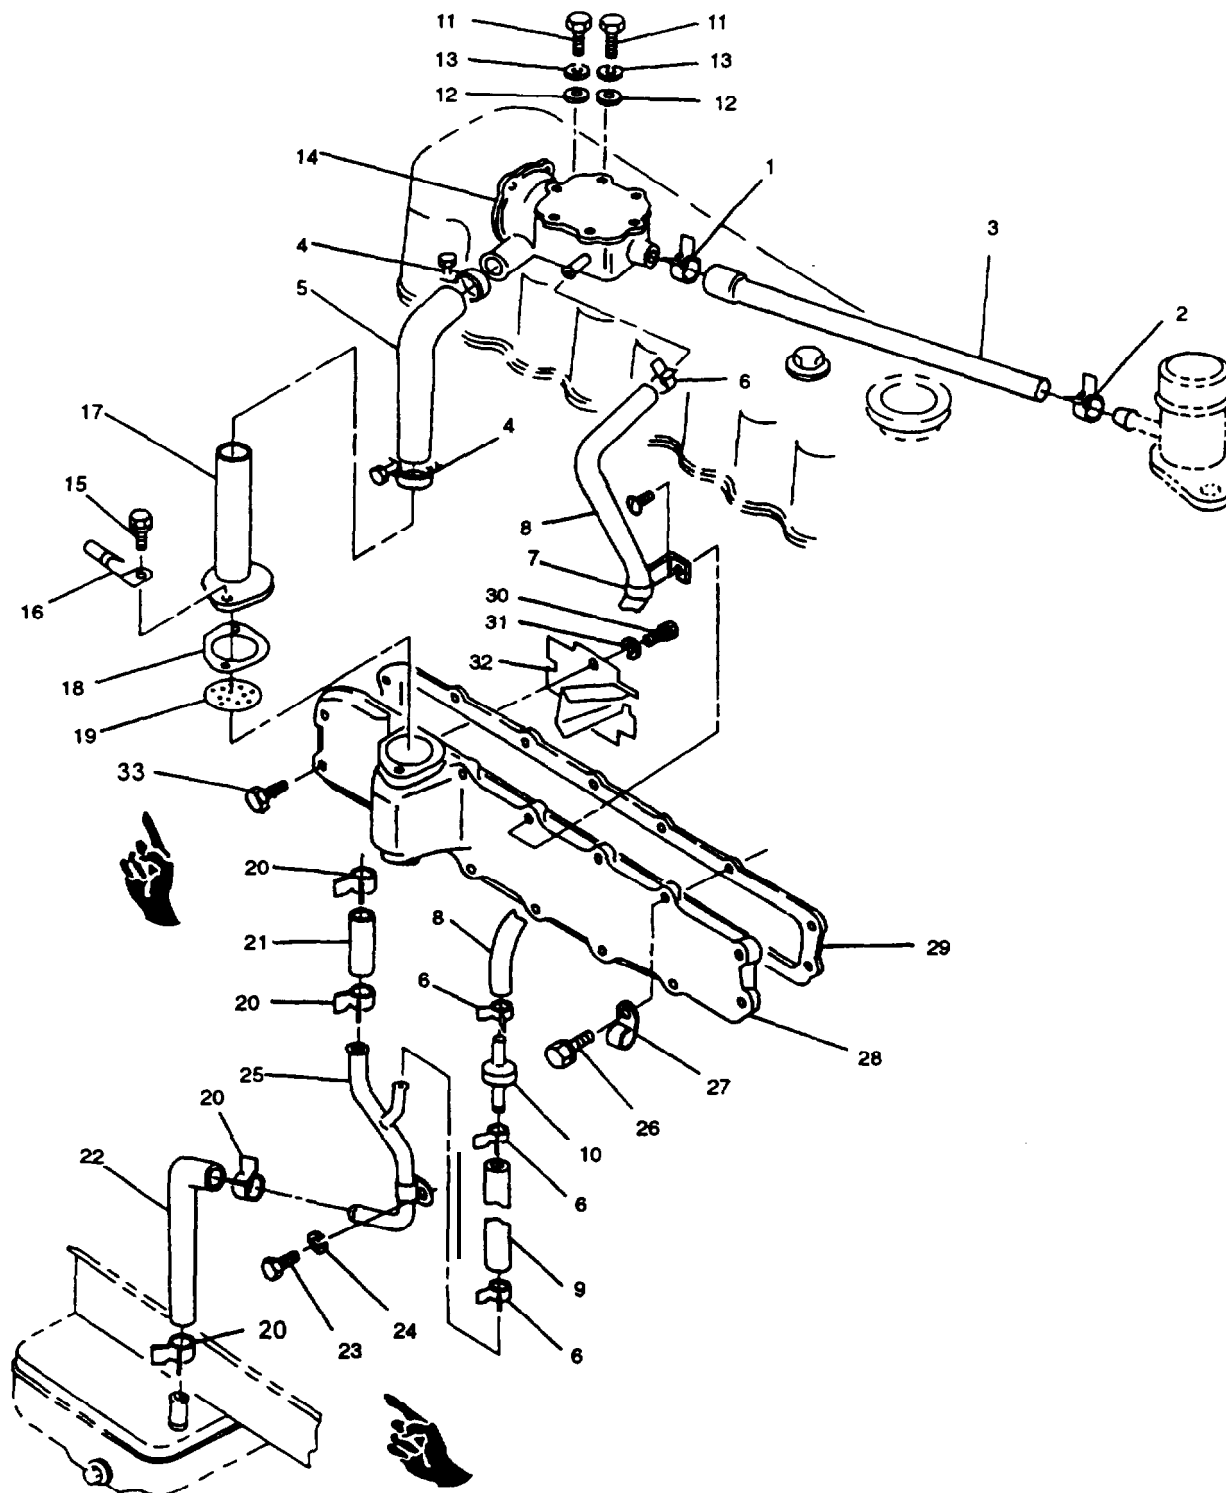

FIGURE 3-44. PCV Assembly
- a. Remove two clamps (1 and 2, FIGURE 3-44) attaching hose (3) to intake manifold and PCV valve (14); remove hose.
- b. Remove two clamps (4) attaching hose (5) to PCV valve (14) and breather pipe (17); remove hose.
- c. Remove two clamps (6) attaching hose (8) to PCV valve (14) and check valve (10). Remove screw securing loop clamp (7); remove hose (8).
- d. Remove hose clamp (6) attaching hose (9) to check valve (10); remove check valve (10).
- e. Remove hose clamp (6) attaching other end of hose (9) to tube (25); remove hose (9).
- f. Remove two bolts (11), lockwashers (13) and washers (12) securing PCV valve (14); remove valve. Discard lockwashers (13).
- g. Remove two screws (15) securing breather pipe (17) to tappet cover (28). Remove bracket (16) breather pipe (17) gasket (18) and baffle (19). Discard gasket (18)
- h. Remove two clamps (20) attaching hose (21) to tappet cover (28) and tube (25); remove hose.
- i. Remove two clamps (20) attaching hose (22) to tube (25) and oil pan; remove hose.
- j. Remove bolt (23) and lockwasher (24) securing tube (25); remove tube. Discard lockwasher (24).
- k. Remove twelve screws (33) and two screws (26) securing tappet cover (28). Remove two clips (27) cover (28) and gasket (29). Discard gasket.